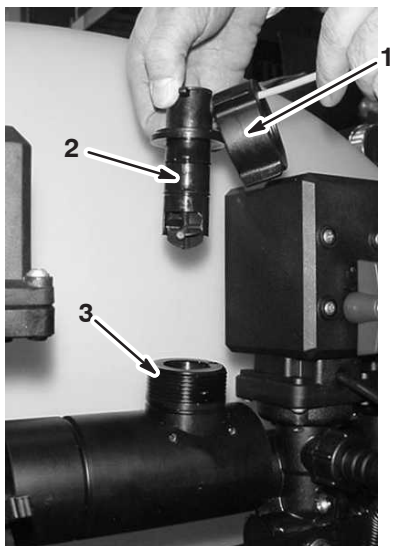

Figure 63
- Remove the retaining cap from the flowmeter body (Fig. 63).